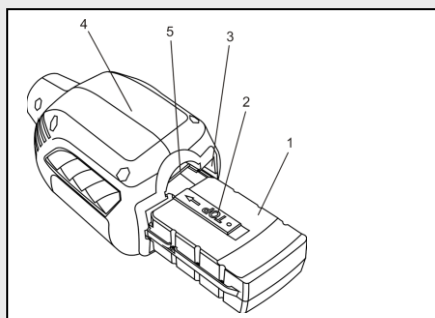

Fig. 4
Position the Power Cell (1) with the "TOP" label (2) facing upward (Fig. 4).